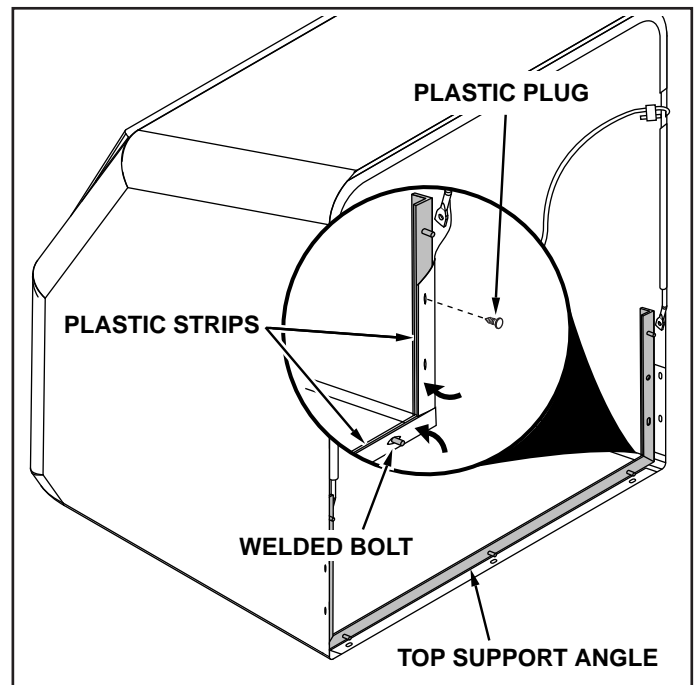

FIGURE 17
- Place the top support angle inside the cart cover. Fold the bottom of the cover around the top support angle. Insert two plastic plugs as shown in figure 17 to secure the cover to the ends of the top support angle.